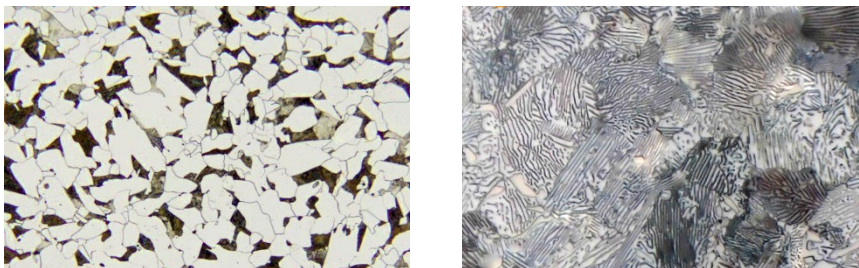

Figure 2: Metallographic cross-sections
- b) A colleague has prepared metallographic cross-sections of two other carbon steels and has taken some images with the optical microscope (Figure 2). However, she does not remember the carbon content. Can you help her to estimate the carbon content and label the phases (Tip 1: Ferrite contains 0.02 wt.% C, perlite contains 0.8 wt.% C. Tip 2: Use the area fractions...)?